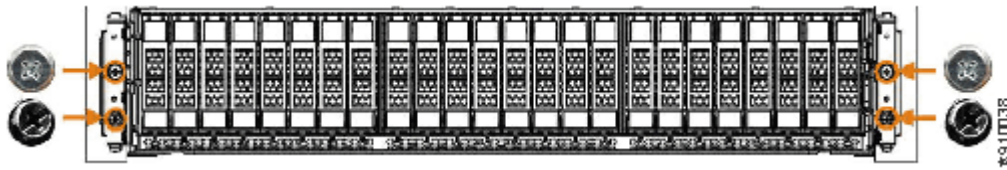

Figure 64. Four screws at the front of the enclosure
6. Unscrew the four M5 screws that secure the left and right end caps of the control enclosure to the rack, as shown in Figure 64 on page 111.